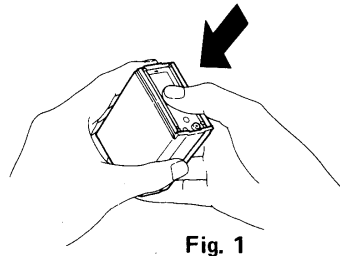

Fig. 1
- Push and hold the sides of the BP-4 BATTERY CASE and push down on the top aluminum panel. (Fig. 1)